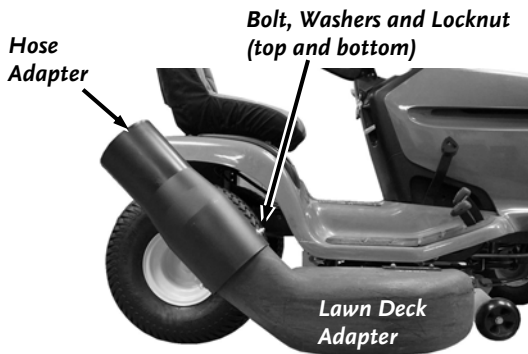

Figure 17
7. Slide the Hose Adapter onto the Lawn Deck Adapter and turn the Hose Adapter so the predrilled Guide Holes are at the bottom and top positions (**Figure 17**).